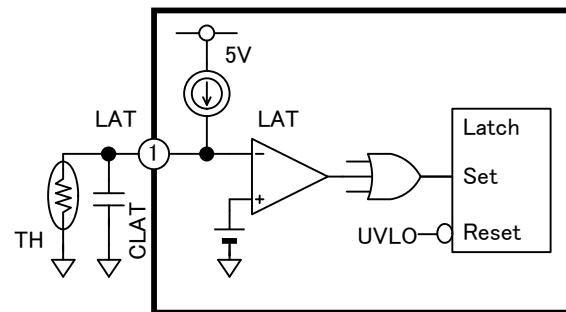

Fig.13 Overheat protection function using a thermistor
The LAT pin is equipped with a latch shutdown function. (See Fig.13) By decreasing the LAT pin voltage to 1.05V or lower, the IC enters the latch mode. To cancel the latch mode, interrupt the input voltage, thus decreasing the VCC voltage to the OFF threshold voltage (9.0V typ.) or lower. LAT function operates after LAT pin voltage rises to more than 2.1V once. If the external latch shutdown function by the LAT pin is not to be used, connect a capacitor only.
Connect an NTC thermistor to the LAT pin to use the overheat protective function. (See Fig.13, P23 9-(4) Lat pin)